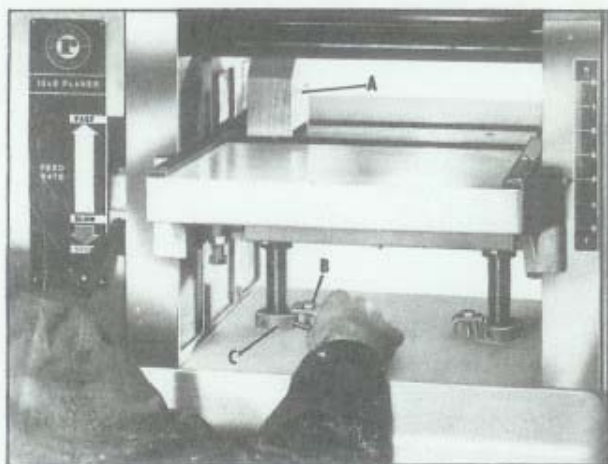

Fig. 8.
2. Place gage block (A) on the table directly under the knives at one end as shown in Fig. 8.
4. Move the gage block to the opposite side of the table. The knives should touch the gage block the same amount. If an adjustment is necessary, loosen screw (B) Fig. 8, under the end of the table that is to be adjusted and turn adjusting nut (C) the required amount until the knives touch the gage block. Then tighten screw (B).